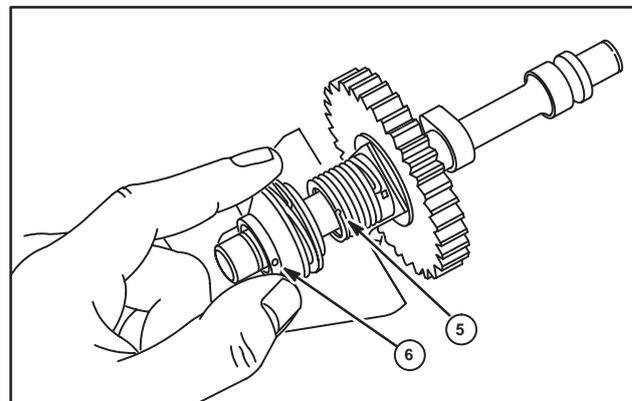

Fig. 59
- Depress spring tab, if required. When clutch sleeve is in place, spring tab (5) should be in sleeve hole (6), Fig. 59.